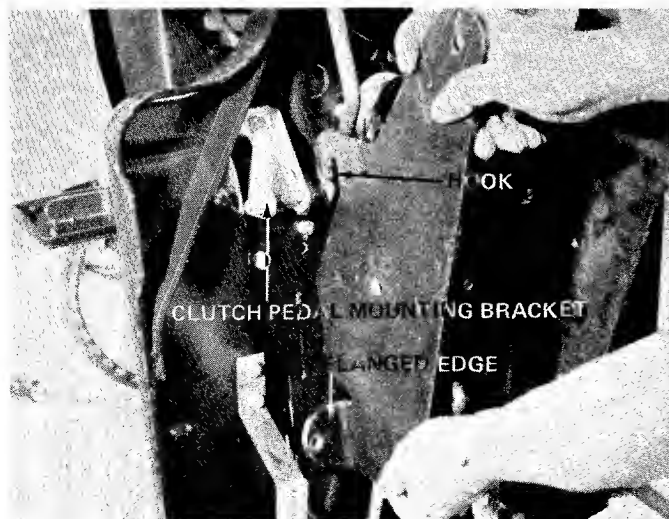

FIGURE 12
6. Replace the bolts with hex bolts (N) 5/16-18 x 1.25" Lg. provided with snow thrower. Fasten with 5/16-18" nut (Q) and lock washer (I). Tighten with wrench.
9. Assemble the channel supporting brackets right and left hand to lawn tractor. See figures 12 and 13.
10. Hook the top of channel supporting bracket right hand (AD) ~~side~~ of clutch pedal mounting bracket. See figure 12. *Brake*